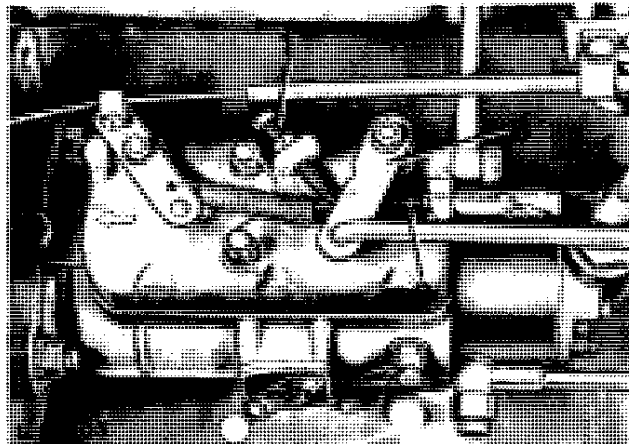

Fig. 5 — ROTO DIESEL Injection Pump, Installed
2. Move pump throttle lever 3 (fig. 5) against pump stop screw 2 for fast idle.